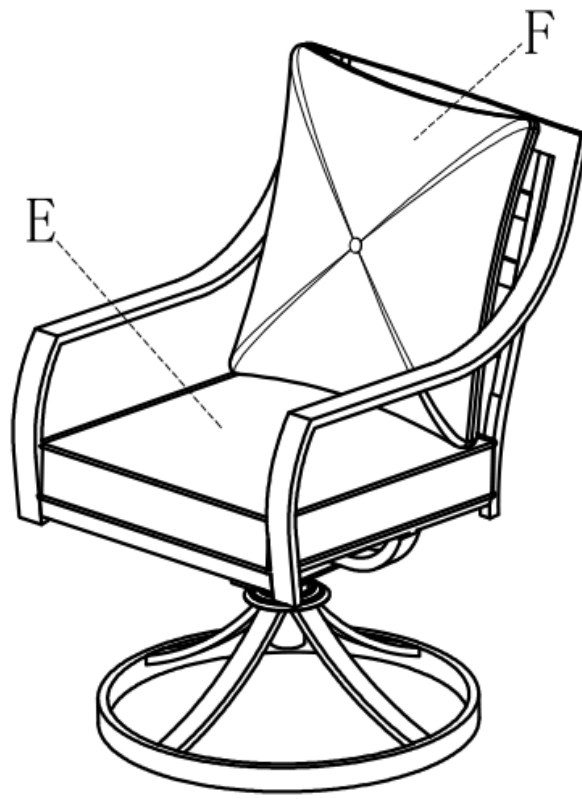

Figure 3
Step 5. Verify all bolts are securely tightened before use and turn your table right side up. Put glass (D) on table top frame(A). Your table is now ready to use. (Figure 3).
Your chair is now ready to use. (Figure 3).